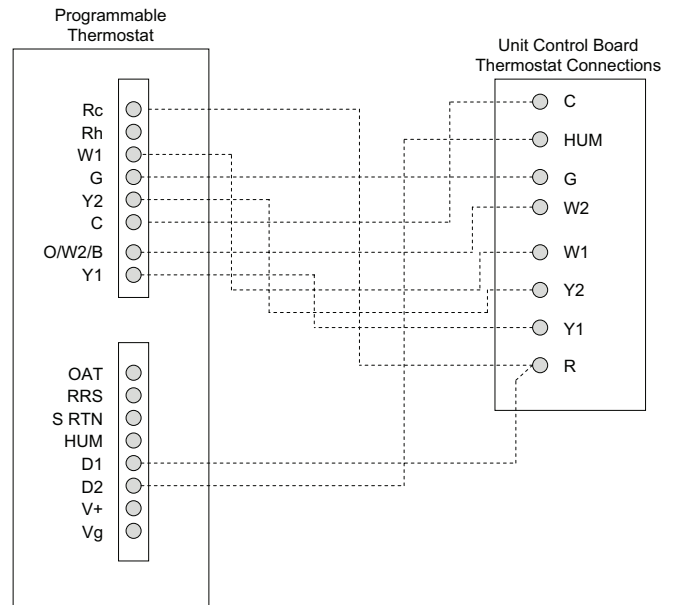

Fig. 60 — 50GE-*17-28 Unit with Humidi-MiZer Adaptive Dehumidification System with Edge® Pro Thermidistat Device
3. The Thermidistat has dry contacts at terminals D1 and D2 for dehumidification operation (see Fig. 60). Connect D1 to the R terminal on the UCB. Connect D2 to the HUM terminal on the UCB. Refer to the installation instructions included with the Carrier Edge® Pro Thermidistat device for more information.